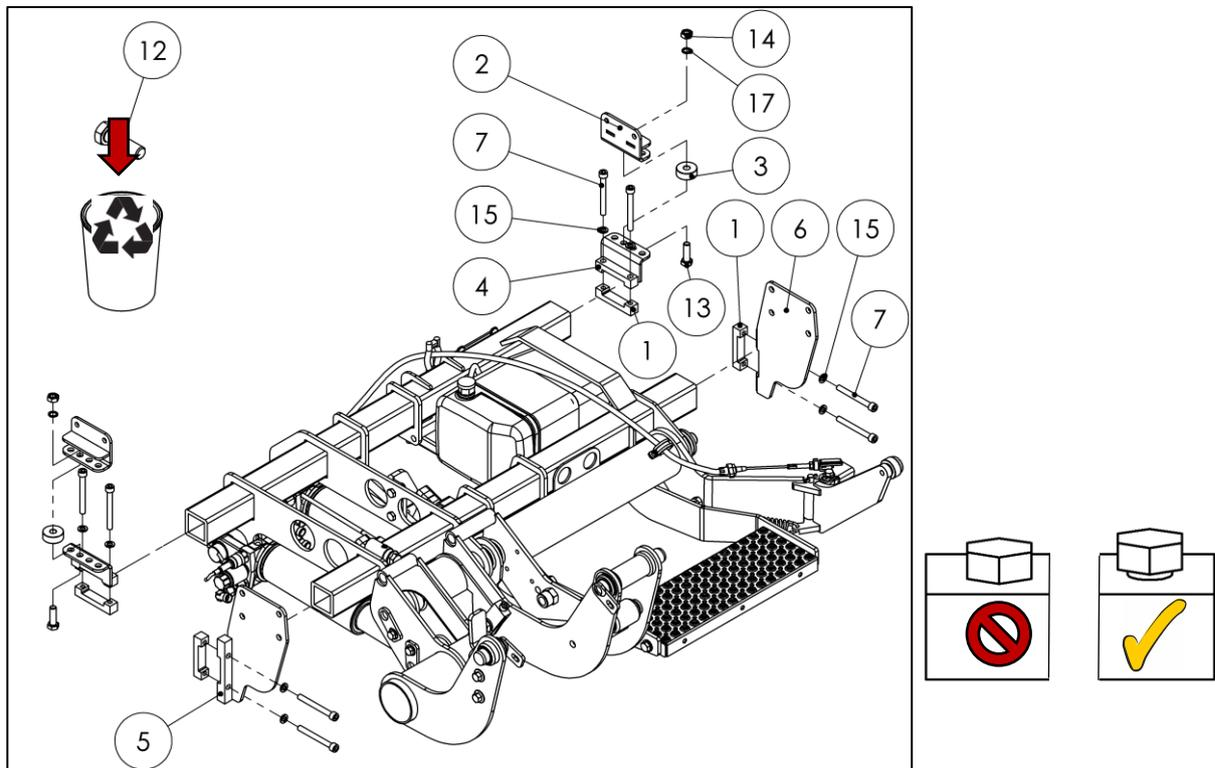
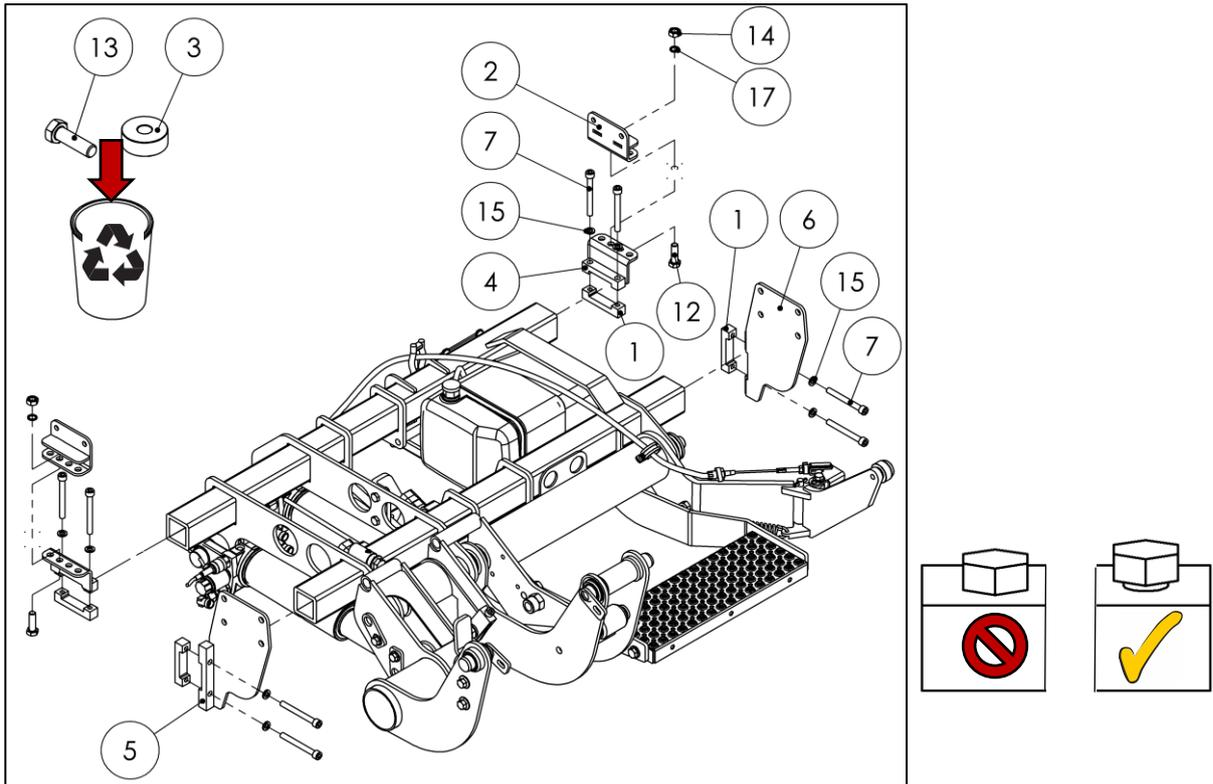

Fig. 11
Fig. 13
- Pre-install the installation adapters on the liftgate's lifting gear as shown in Fig. 11 or Fig. 13, tightening the fittings until hand-tight.
IMPORTANT: Depending on the vehicle, choose either the 3.5 ton (see Fig. 11) or 5 ton (see Fig. 13) installation version.